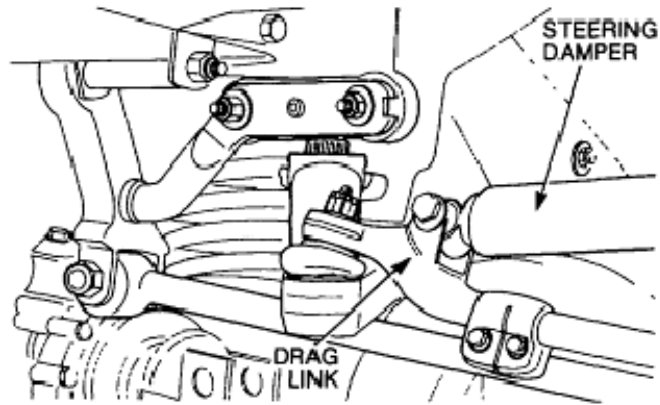

Figure 138 Steering Damper to Drag Link Removal
- b. Remove the locknut and bolt securing the steering damper to the drag link (Figure 138). Discard the locknut.
- e. Remove the locknut and bolt securing the steering damper to the drag link (Figure 138). Discard the locknut.